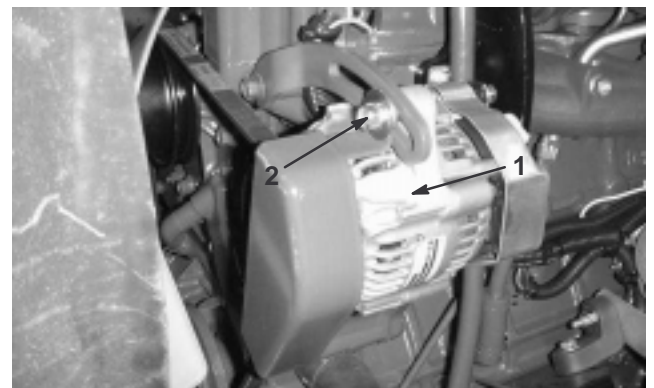

Figure 39
Check the condition and tension of the belts (Fig. 39) after every 100 operating hours.
- If the deflection is not 3/8 in. (10 mm), loosen the alternator mounting bolts (Fig. 39). Increase or decrease the alternator belt tension and tighten the bolts. Check the deflection of the belt again to ensure that the tension is correct.